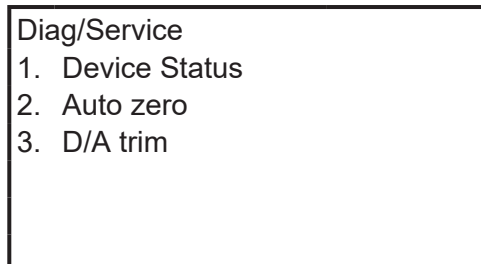

Figure 30 Diag/Service menu
2. Select “2. Diag/Service” from the device set up menu. (Figure 8) The Diag/Service menu will then be displayed as shown in Figure 30.
1. Select “3. D/A trim” from the Diag/Service menu. (Figure 30)